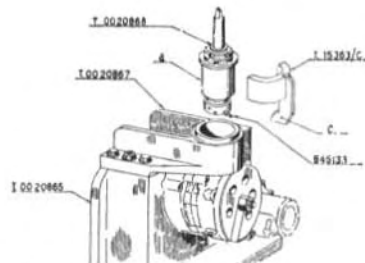

Fig. 19 - Crankcase holder and guide jig
2. - Fix the crankcase on the work holder T. 0020865 provided with guide jig T. 0020867; then adjust the spindle T. 0020868 in the position indicated below (see Fig. 19).